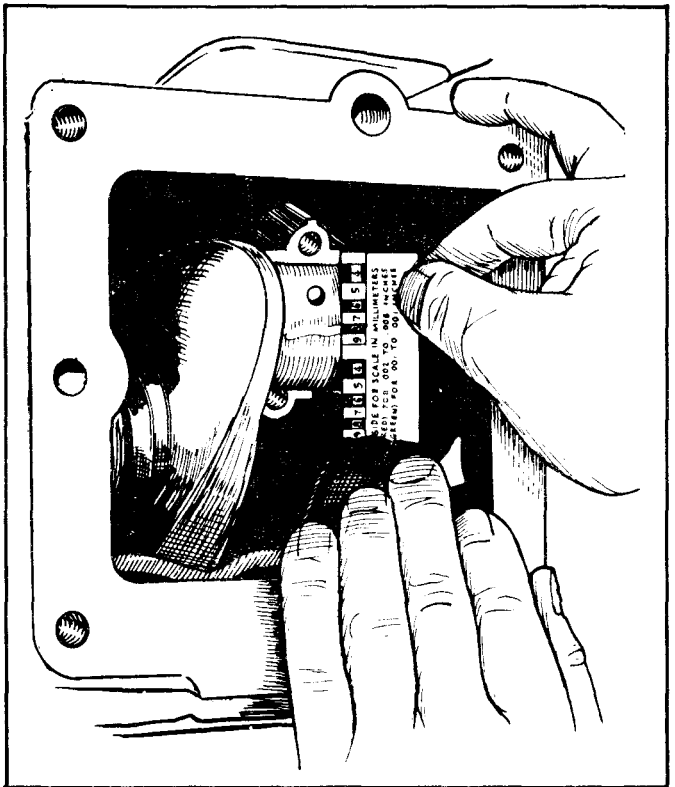

FIGURE 19. MEASURING BEARING CLEARANCE WITH PLASTI-GAGE
2. Place a piece of correct size Plasti-Gage in the bearing cap the full width of the crankshaft rod surface about 1/4 inch off center (Figure 19).